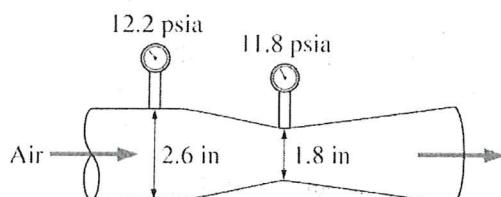

Figure 5
5. Air is flowing through a venturi meter whose diameter is 2.6 in at the inlet and 1.8 in at the throat. The gage pressures are measured as shown in figure 5. Neglecting frictional effects, determine the volume flow rate of air. Take air density to be 0.075 lbm/ft³.